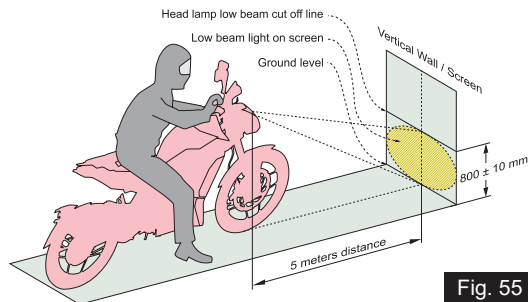

Fig. 55
- Place the motorcycle upright in a uniform flat surface while ensuring the headlamp center is 5 meter away from a vertical wall or screen (ref. Fig. 55).
- Mark a horizontal line on the wall or screen around 800 ± 10 mm from the ground level and mark a vertical line in the middle of the horizontal line (ref. Fig. 55).
- Now, turn the headlamp to low beam mode and ensure the headlamp low beam focus falls between 800 ± 10 mm from the ground level as shown (ref. Fig. 55).